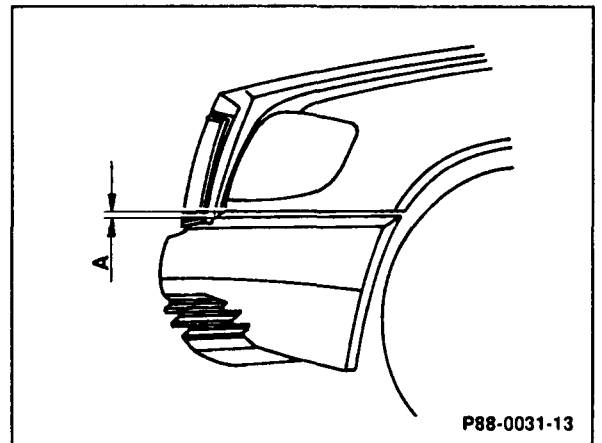

Figure 4
14. Inspect alignment of assembly and adjust if necessary ( $A = 5 \text{ mm}$ , Figure 4) and tighten mounting nuts.